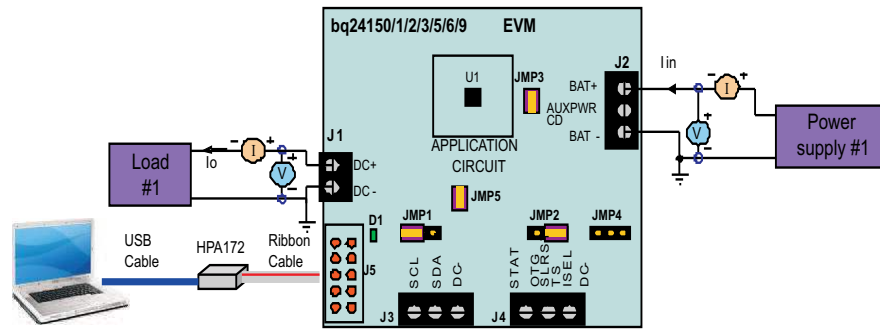

Figure 4. Test Setup for HPA255
2. Set the Load 1 current to 200 mA ±20 mA but disable the output. Connect the output of the Load 1 in series with a current meter (multimeter) to J1 (DC+, DC-). Ensure that a voltage meter is connected across J1 (DC+, DC-). The setup is now like that shown in Figure 4 for HPA255.